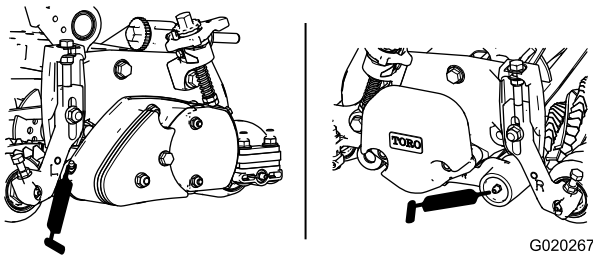

Figure 16
34. Grease each of the groomer bearings (2 or 3 pumps maximum); refer to Figure 16. Do not over-grease them, as excess grease may cause seal failure. Wipe off any excess grease.